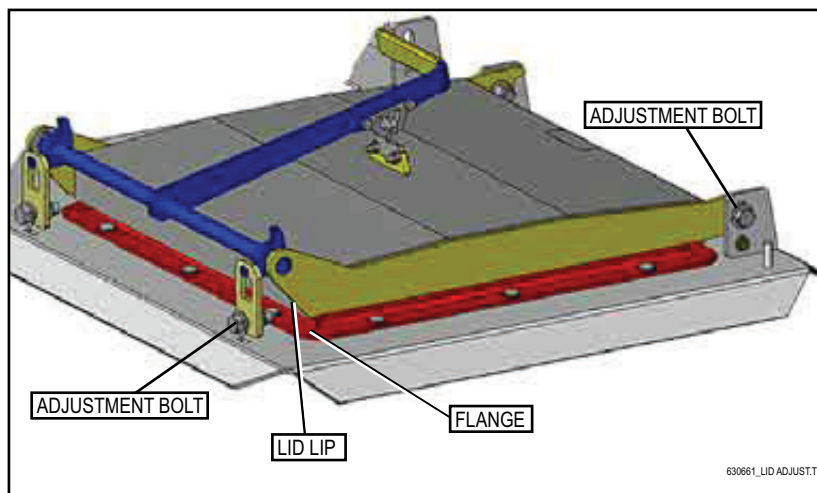

Figure 11.51 - Tank Lid Assembly (Small Lid Shown)
2. Loosen the nuts on the left and right sides of the tank lid and slide the whole lid assembly up or down in the adjustment slot, until the distance is 1/2" from the flange to the lip on the lid is attained. Refer to *Figure 11.51*.